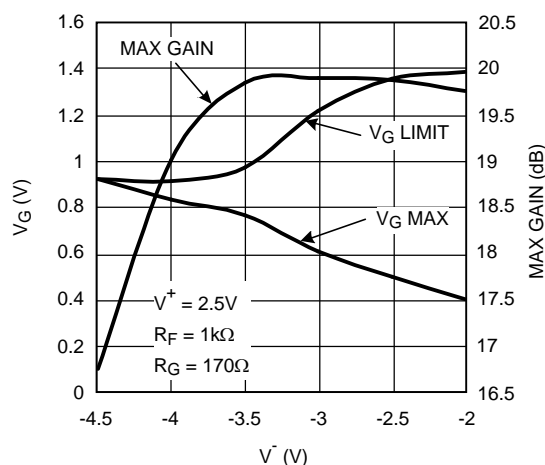
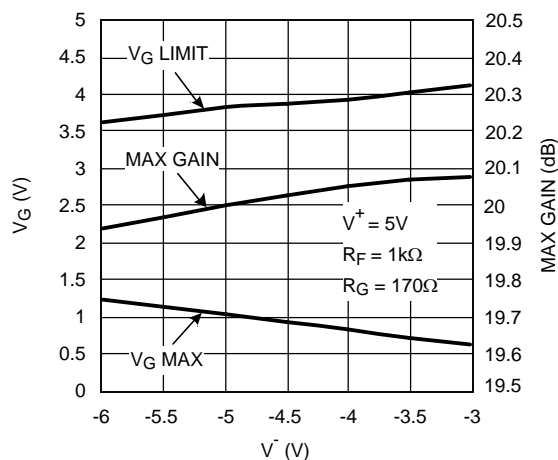

Figure 67. V_{G_MAX} , V_{G_LIMIT} , & Max-gain vs. V^- ($V^+ = 2.5V$)
Figure 68. V_{G_MAX} , V_{G_LIMIT} , & Max-gain vs. V^- ($V^+ = 5V$)
- V_G range constricts. Referring to Figure 67, note that V_{G_MAX} (V_G voltage required to get maximum gain) is 0.5V ($V_S = \pm 2.5\text{V}$) compared to 1.0V for $V_S = \pm 5\text{V}$. At the same time, gain cut-off (V_{G_MIN}) would shift to -0.5V from -1V with $V_S = \pm 5\text{V}$.
- b) V_{G_LIMIT} (maximum permissible voltage on V_G) is reduced. This is due to limitations within the device arising from transistor headroom. Beyond this limit, device performance will be affected (non-destructive). Referring to Figure 67, note that with $V^+ = 2.5V$, and $V^- = -4V$, V_{G_LIMIT} is approaching V_{G_MAX} and already "Max gain" is reduced by 1dB. This means that operating under these conditions has reduced the maximum permissible voltage on V_G to a level below what is needed to get Max gain. If supply voltages are asymmetrical, reference Figure 67 and Figure 68 plots to make sure the region of operation is not overly restricted by the "pinching" of V_{G_LIMIT} , and V_{G_MAX} curves.
- c) "Max_gain" reduces. There is an intrinsic reduction in max gain when the total supply voltage is reduced (see Figure 43). In addition, there is the more drastic mechanism described in "b" above and shown in Figure 67.
Similar plots for $V^+ = 5V$ operation are shown in Figure 68 for comparison and reference.